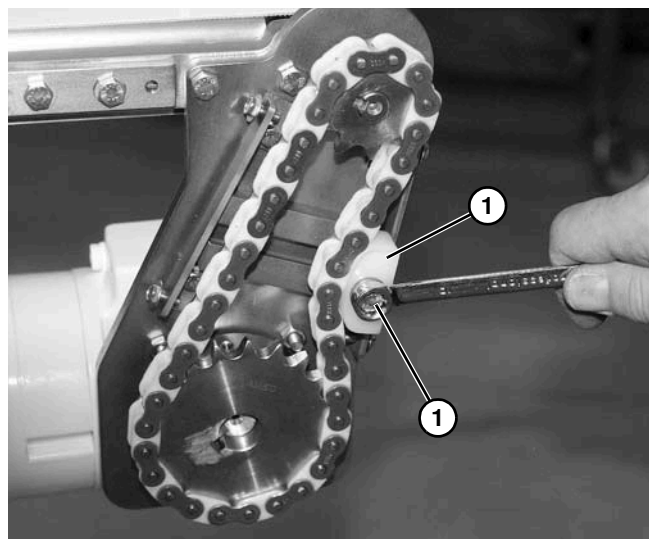

Figure 66
11. Slide chain tensioner (**Figure 66, item 1**) to take up chain slack. Tighten chain tensioner screw (**Figure 66, item 2**).